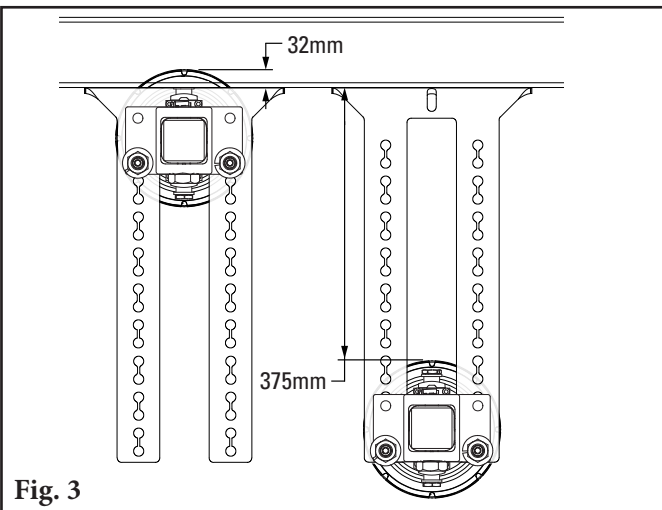

Fig. 3
- 3. Position mounting brackets.** May be mounted to existing idler hole patterns. Overall range of adjustment on brackets is 32mm above the top flange or 89mm below the top flange (Fig. 3).
3. **Position mounting brackets.** May be mounted to existing idler hole patterns. Overall range of adjustment on brackets is 32mm above the top flange or 222mm below the top flange (Fig. 3).